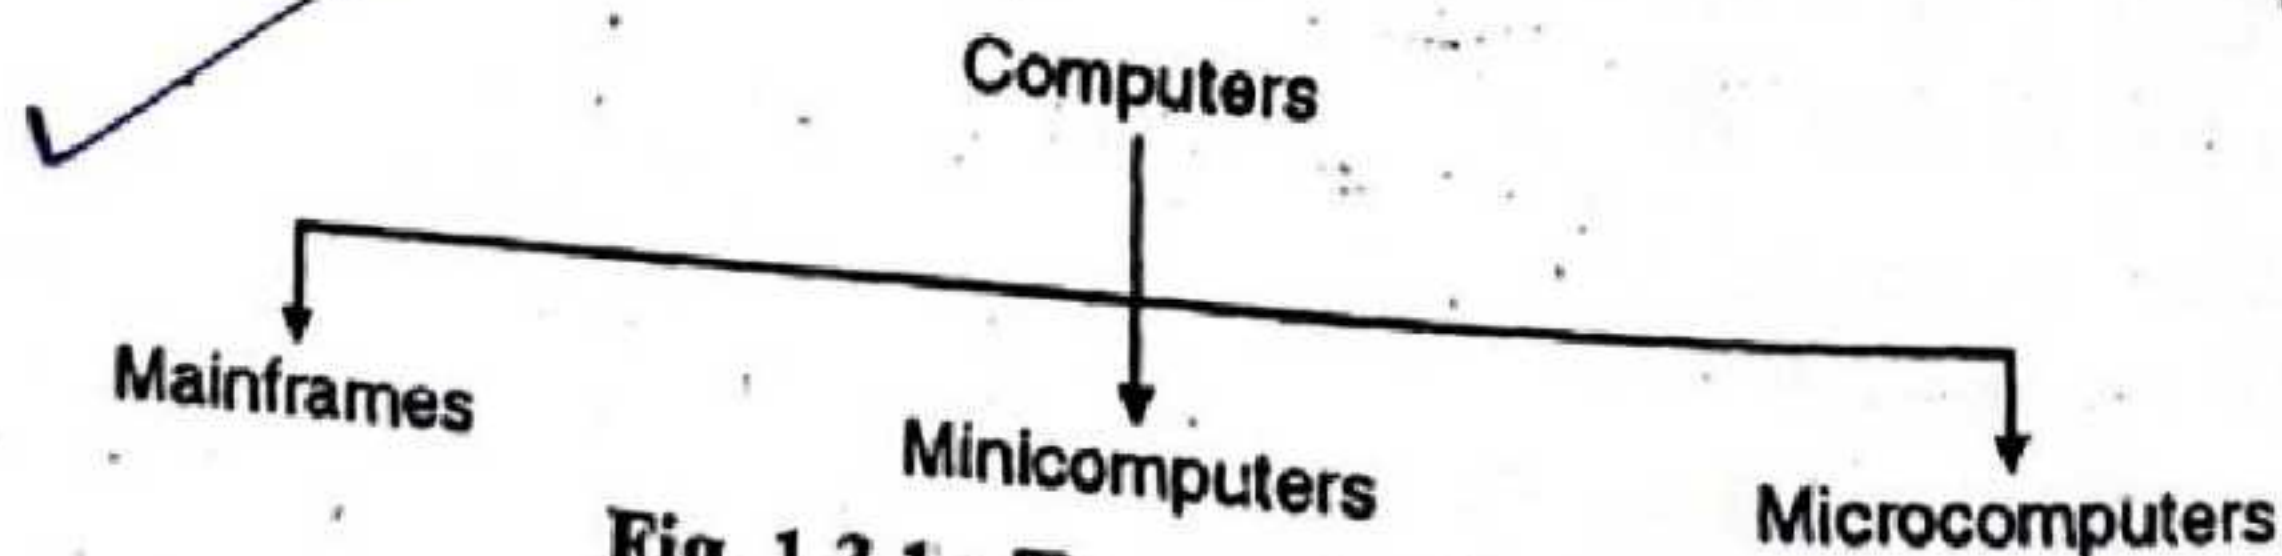

Fig. 1.3.1 : Types of computers
8. **Interrupt Capability**: Interrupts are used to handle unpredictable and random events in the microcomputer. It is used to interrupt the microprocessor. It is also used to speed up the I/O programs. It improves the throughput of the system. Depending on the size and capabilities the computers are classified in various types as shown in Fig. 1.3.1.